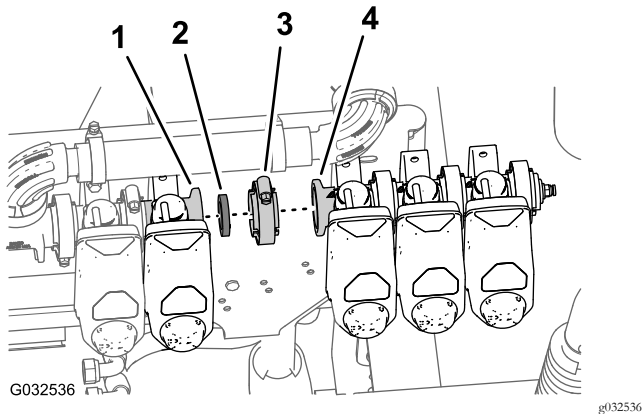

Figure 91
1. Align the gasket and the flange of the left section valve (identified as nozzle-valve 8) with the flange of nozzle-valve 7 (Figure 91).
2. Loosely secure the gasket and nozzle-valve 8 to nozzle valve 7 with a flange clamp (Figure 91).